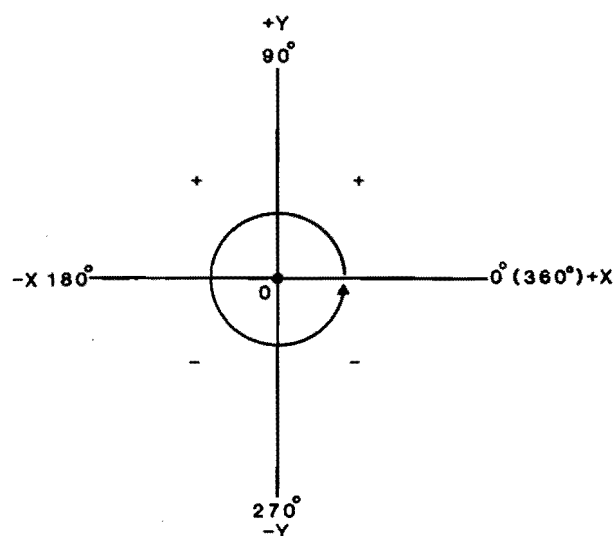

Figure 3-19 Typical AC vector diagram.
It is possible to add vectors but, you must take into consideration both the magnitude and the direction of the vector. In order to make this easier, you should draw a vector diagram when analyzing AC circuits. The basic format for vector diagramming is shown in Figure 3-19.
In Figure 3-19, the ends of the axis are labeled 0 (360), 90, 180, and 270. When the vector is rotated, it starts at 0 and travels in a counter-clockwise direction until it reaches 360. This would be one complete revolution and ends at the origin. Now that we've set the basic groundwork for the vector diagram, let's look at an example.